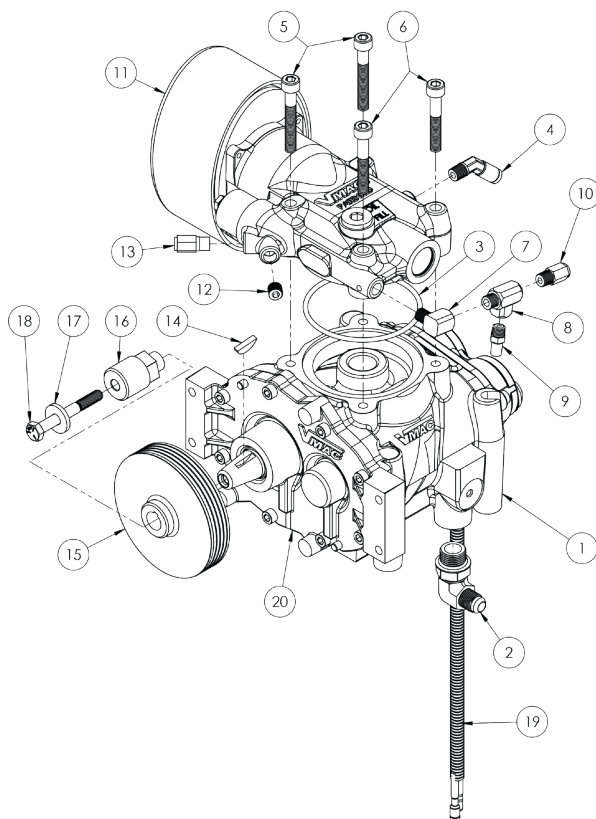

Figure 77 — Compressor Assembly (P190004)
2. Compressor Assembly, P190004 (Figure 77)